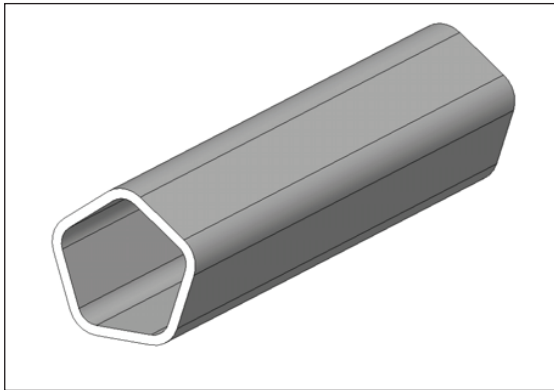

Fig. 5-16: Oxygen sensor removal tool
- Oxygen sensor removal tool (see Fig. 5-16 on p. 48)
To remove and replace the oxygen sensor, you will need the sensor removal tool provided (see Fig. 5-16 on p. 48).
3. Using the sensor removal tool (see Fig. 5-16 on p. 48), unscrew the oxygen sensor by turning it counter-clockwise. Because the oxygen sensor contains lead, be sure to dispose of it according to local regulations.